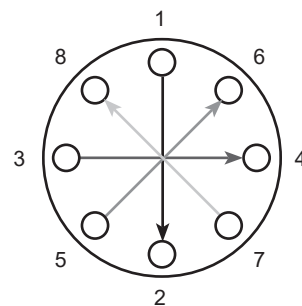

Figure 6.25: Bolt Pattern
- a. Tighten bolts/nuts in a star pattern to ensure even tightening, as per Figure 6.25.